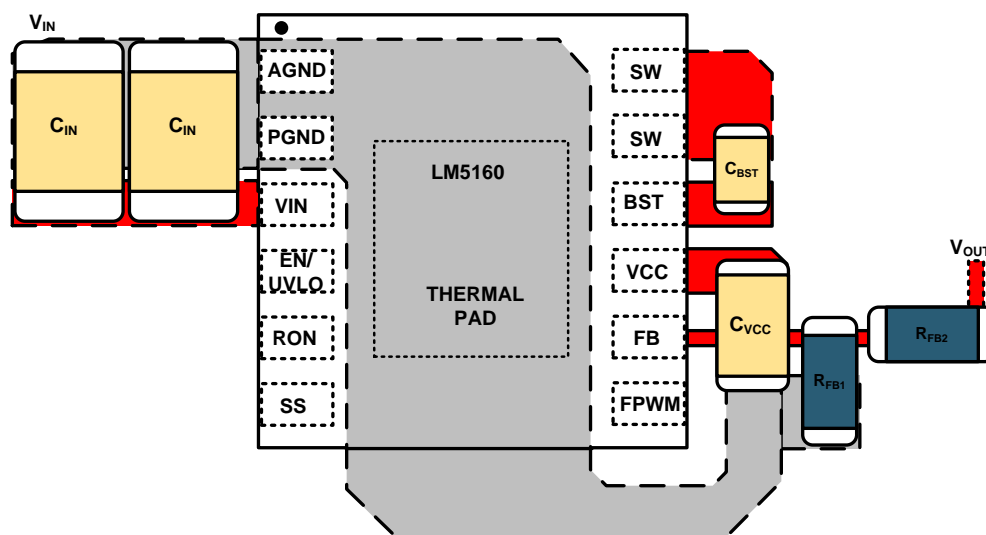

Figure 35. Placement of Bypass Capacitors
- $C_{IN}$ : The loop consisting of input capacitor ( $C_{IN}$ ), VIN pin and PGND pin carries the switching current. The input capacitor must be placed close to the IC, directly across VIN and PGND pins, and the connections to these two pins must be direct to minimize the switching power loop area. In general, it is not possible to place all of input capacitances near the IC. A good layout practice includes placing the bulk capacitor(s) as close as possible to the VIN pin (see Figure 35). A bypass capacitor measuring 0.1  $\mu\text{F}$  must be placed directly across VIN and PGND (pin 3 and 2, respectively), as close as possible to the IC while complying with all layout design rules.
- $C_{VCC}$  and  $C_{BST}$ : The VCC and bootstrap (BST) bypass capacitors supply switching currents to the high-side and low-side gate drivers. These two capacitors must also be placed as close to the IC as possible, and the connecting trace length and loop area must be minimized (see Figure 35).